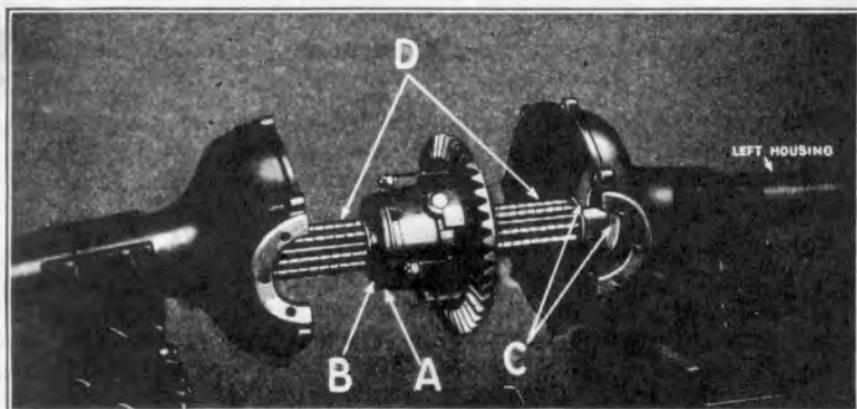

Fig. 350
- 613 Examine the four differential thrust plates and two washers for wear; if O. K. grease the parts and insert a thrust plate over end of each axle shaft, positioning them against differential cases (See "A" Fig. 350), making sure that dowel pin in case enters dowel pin hole in thrust plate.
- 617 Place a little cup grease on axle case gasket and position it on bell of housing. Insert housings over end of shafts, making sure that the left housing is placed over shaft on which differential drive gear is assembled (See Fig. 350).